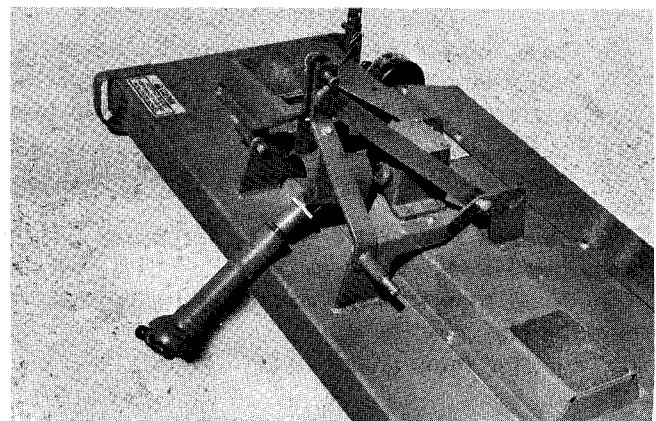

Fig. 54 — PTO Shaft Installation
2. Install front portion of PTO shaft onto rear portion by sliding the two together, Fig. 54.